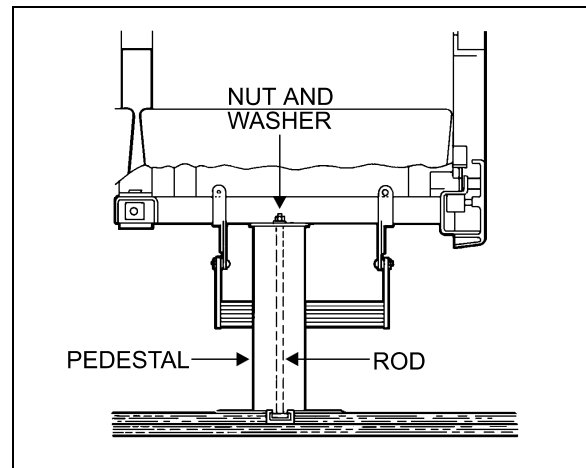

FIGURE 28: SEAT PEDESTAL ASSEMBLY
4. Remove 2 cap screws, nuts, and washers holding seat frame to side wall and retain the 2 holding brackets. See figures 28 and 29.